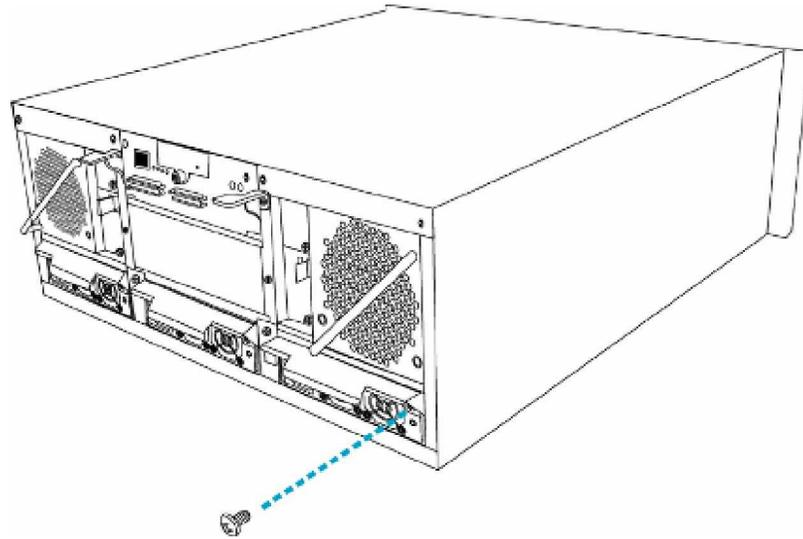

Figure 5-7: Removing the PSU Retention Screw
Step 2. **Remove the retention screw** located on the right side of the PSU. (See *Figure 5-7.*)